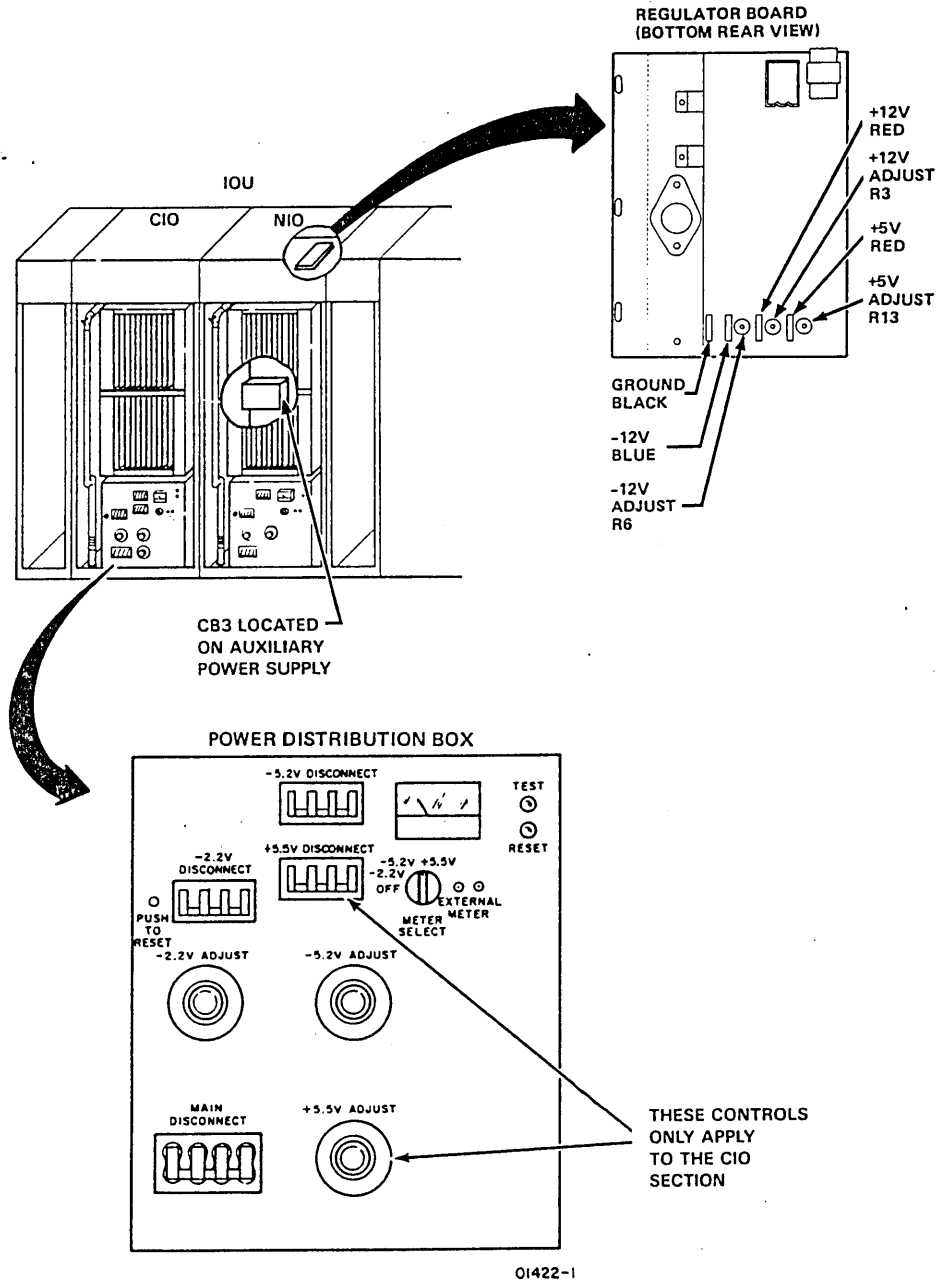

Figure 3-47. IOU Power Controls and Adjustments
- ___ a. Set meter SELECT SWITCH (figure 3-47) to -2.2 V.